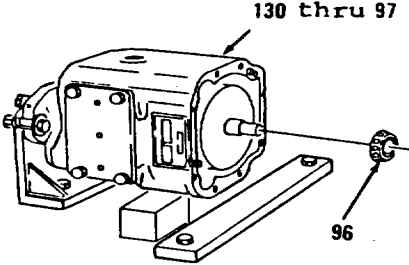

Figure 10-33.
- 48. Install bearing (96, Figure 10-33) using protective plate and suitable puller.